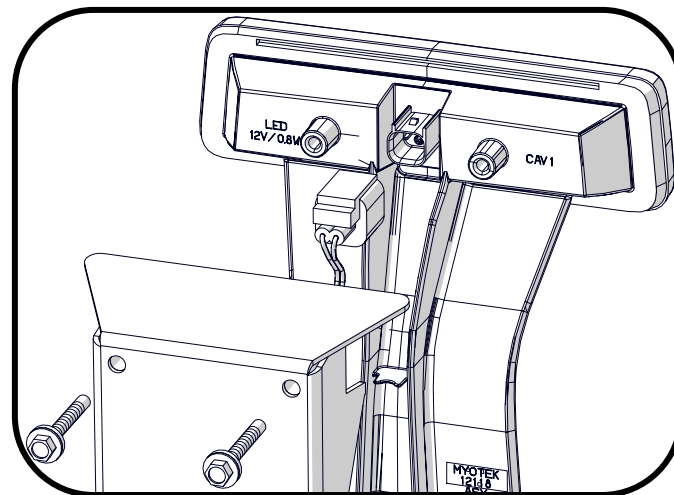

Figure 3
3. If the third brake light is not plugged in, connect the wiring harness to the light and route the wiring down the back of the factory light housing. (Figure 3)